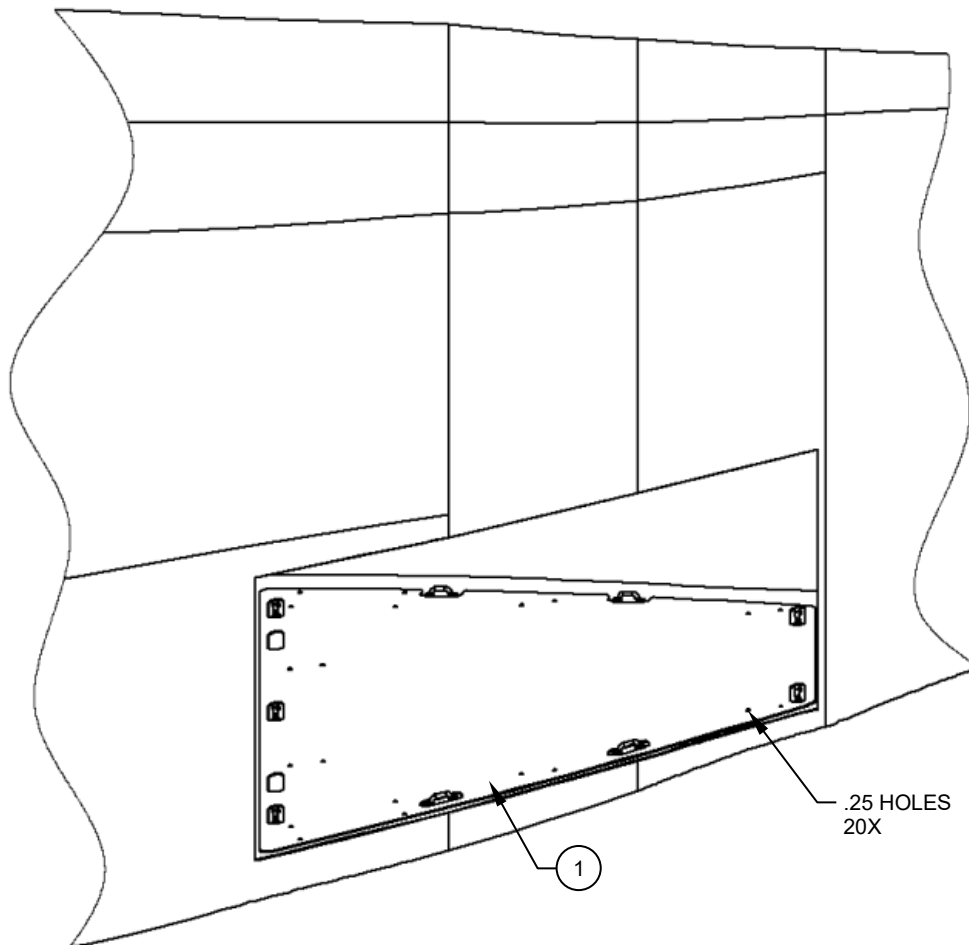

Figure 2
3. With the panel lined up use the pre-cut .25 holes and a felt pen to mark out the locations for the Velcro, Details (Items 6, 7 & 8) and remove the panel (Item 1). Reference Figure 2.